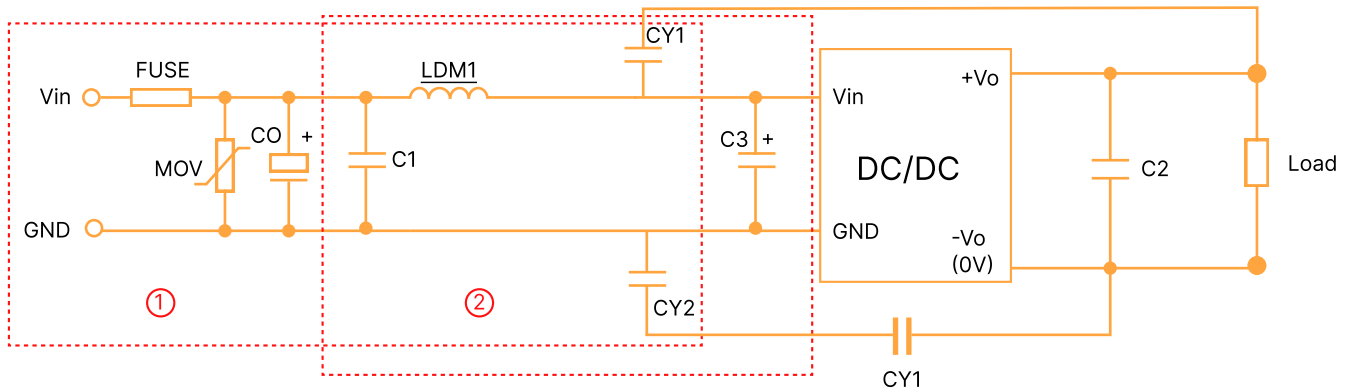

Figure 2: EMC Typical Recommended Circuits
Radiation disturbance	CISPR32/EN55032 CLASS B (The recommended circuit is shown in Figure 2)
C2	Refer To The Cout In Fig.2
2. EMC requirements: For situations with high EMC requirements, a typical EMC recommended circuit is shown in Figure 2.